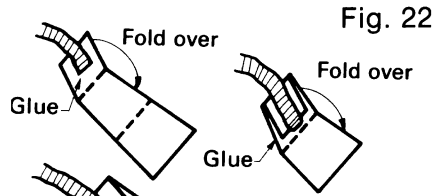

Fig. 22
- B Construct the Mount as shown in Fig. 22. Fold the panels so that the shock cord rolls up with it.